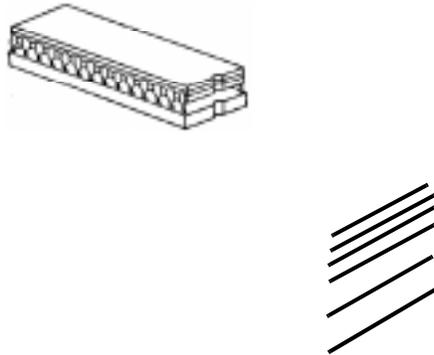

Figure 5: Inserting Pins in Other Side of Socket
7. Insert the pins on the other side of the chip into holes on that side of the socket (see Figure 5).